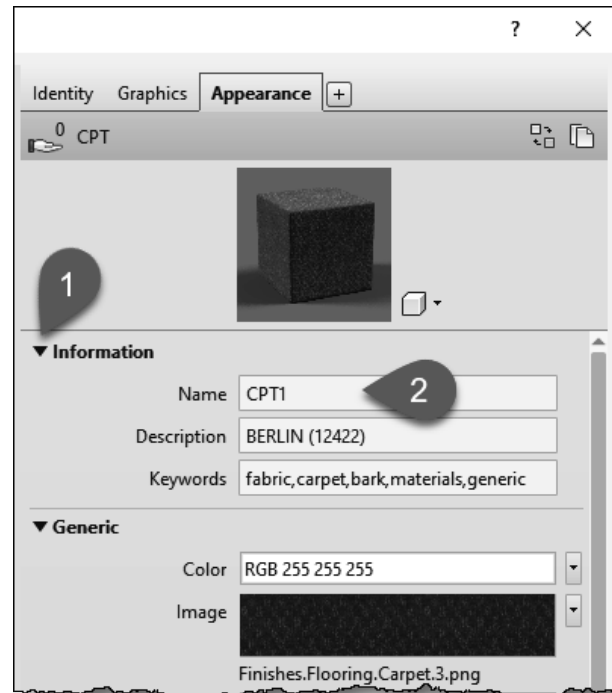

FIGURE 4-3.8 Editing an appearance asset
Notice, on the *Appearance* tab (Figure 4-3.8), that a PNG raster image is assigned to this material. You will use an image you just downloaded from the carpet manufacturer's website and then edit your *Material* to use this new image. Keep in mind that anyone who might work on the project needs access to the image file location. So, in an office environment, you would not want to save this file to your local hard drive.
19. Expand the **Information** area and change the *Name* to **CPT1** (see Figure. 4-3.8).